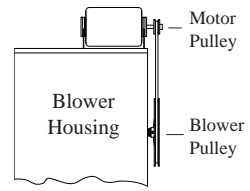

Fig. 3
- **Install pulley.** Install the adjustable motor pulley so that it aligns with the blower drive pulley (see Fig. 3) and tighten set screw. See page 3 for instructions on adjusting pulley.